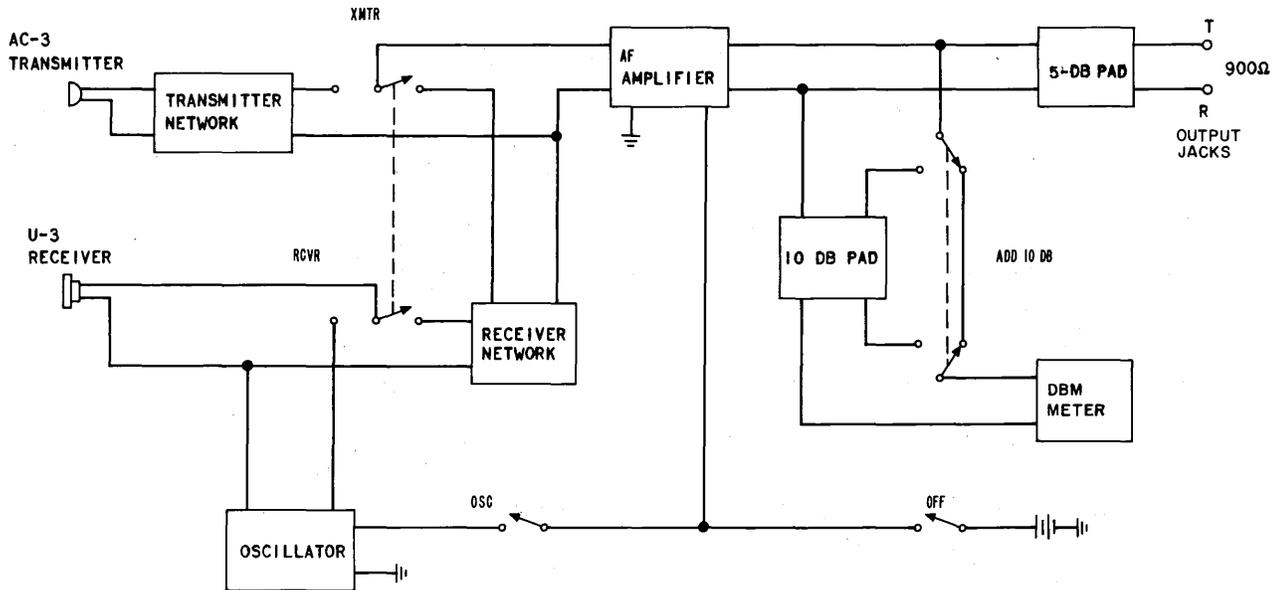

Fig. 2—Functional Block Diagram of F-58654 Test Set
**2.09** The following text gives a brief functional description of the test set as shown in the block diagram of Fig. 2.